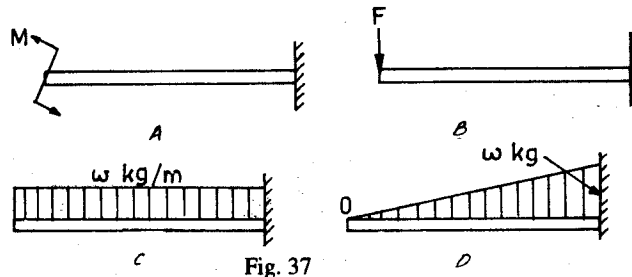

Fig. 37
79. The bending moment diagram for the loadings shown in four cases below (Fig. 37) respectively will be